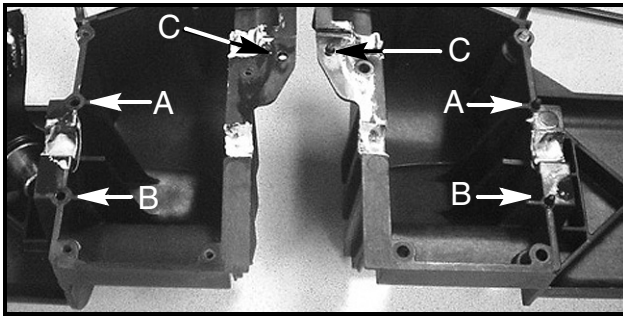

FIGURE 13
22. Carefully align the RH housing onto the LH housing subassembly ensuring that the RH housing's three guide pins align with the three LH housing's holes. See Figure 13.